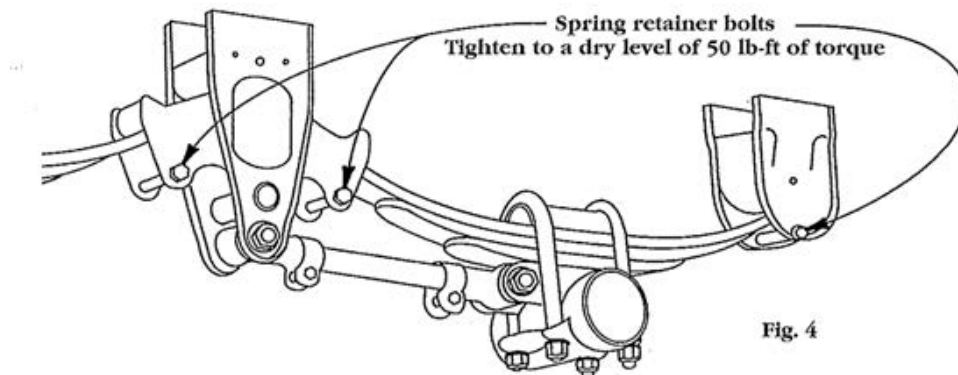

Fig. 4
4. Check all the spring retainer bolts found in the rockers and rear hangers. A **dry** value of 50 lb-ft of torque should be maintained on all of these bolts. **See Figure 4.**